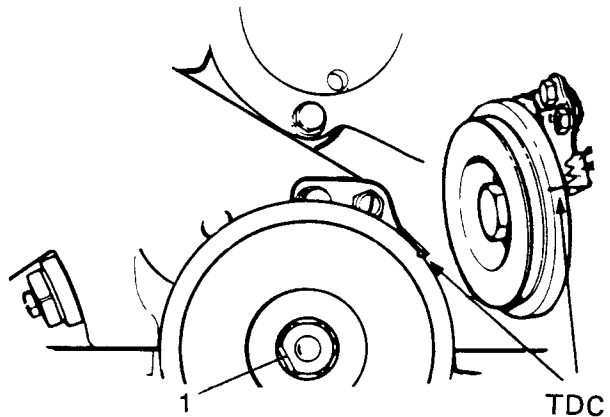

Fig B4.106
(5) Refer to Fig B4.106. Loosen the harmonic balancer bolt (1) using special tool 18G98A.
(6) Set the crankshaft pulley timing mark to the TDC position with No 1 cylinder firing.